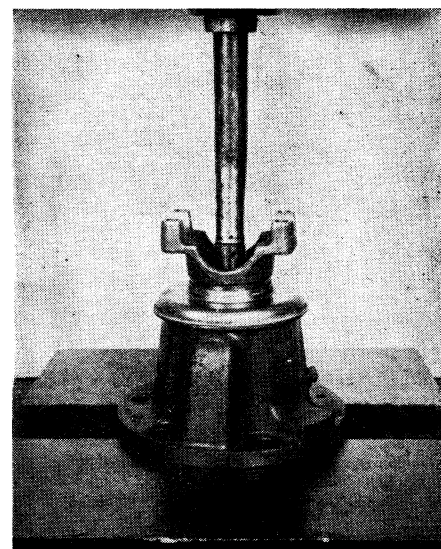

Fig. 12 Pressing pinion shaft out of flange and cage
13. Press pinion shaft out of flange and cage, Fig. 12.